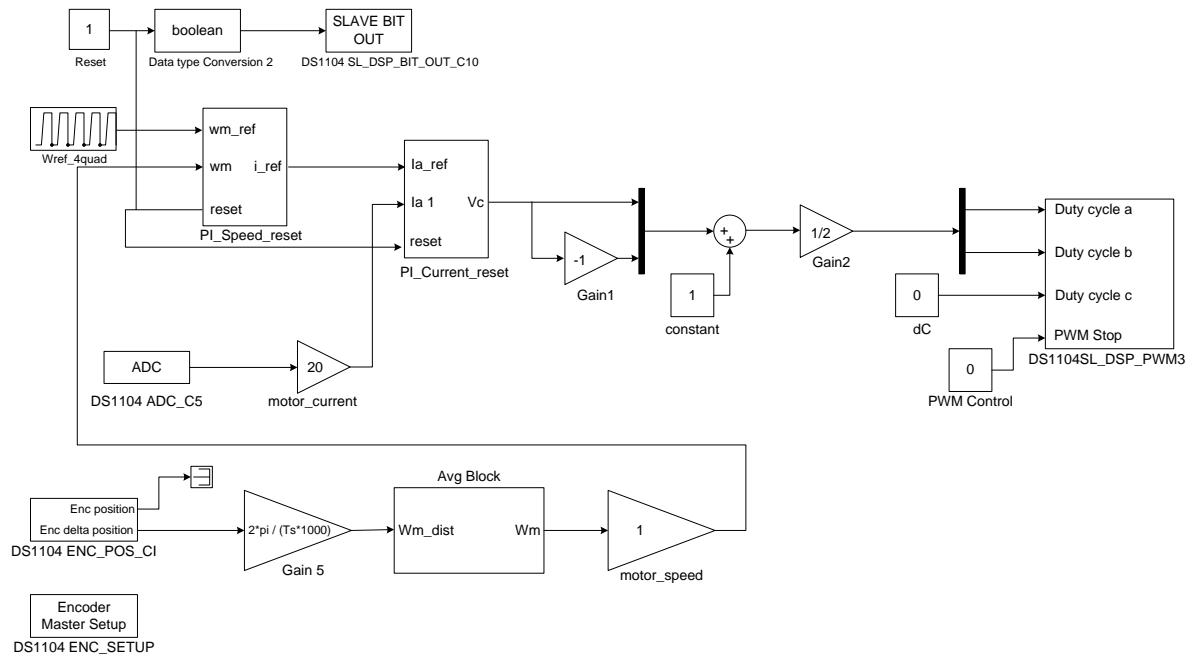
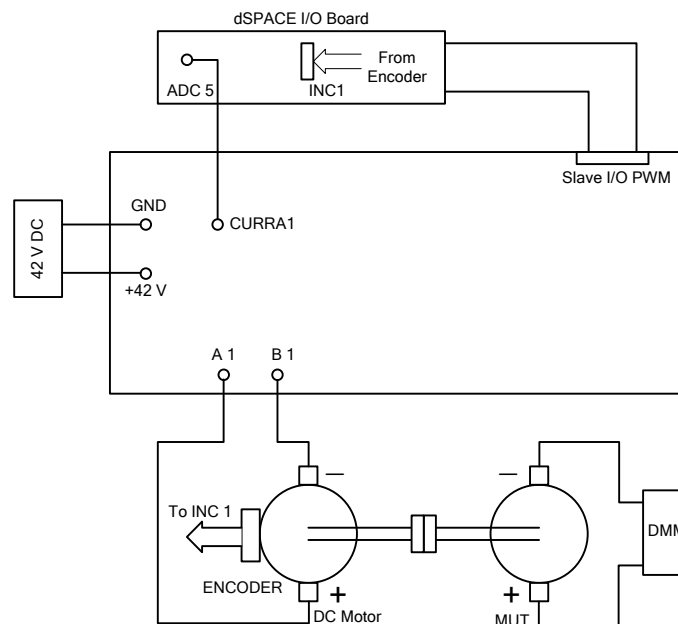

Figure 5.7: Simulink model for real-time implementation of DC motor control
Figure 5.8: Connections on the board
All the necessary components to make the model in Fig 5.7 are provided in the file ‘**components.mdl**’. If you would like to build it the instructions as in a to f are given below:
- Fig 5.7 is then the simulation block for DC-motor control. Make the connections on the board as shown in Fig. 5.8. The block wref_4quad gives a periodic step change in reference speed from 100 rad/sec to 300 rad/sec.